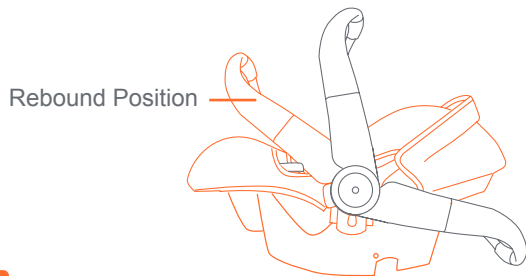

Fig. 23-2
- The Rebound handle position is the only approved in vehicle use position (Fig. 23-2).